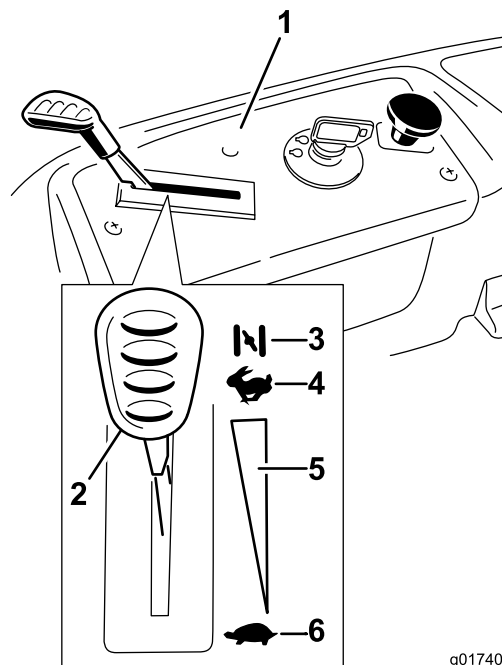

Figure 12
3. Move the throttle lever to Choke before starting a cold engine (Figure 12).
2. Move the throttle lever to Fast (Figure 12).